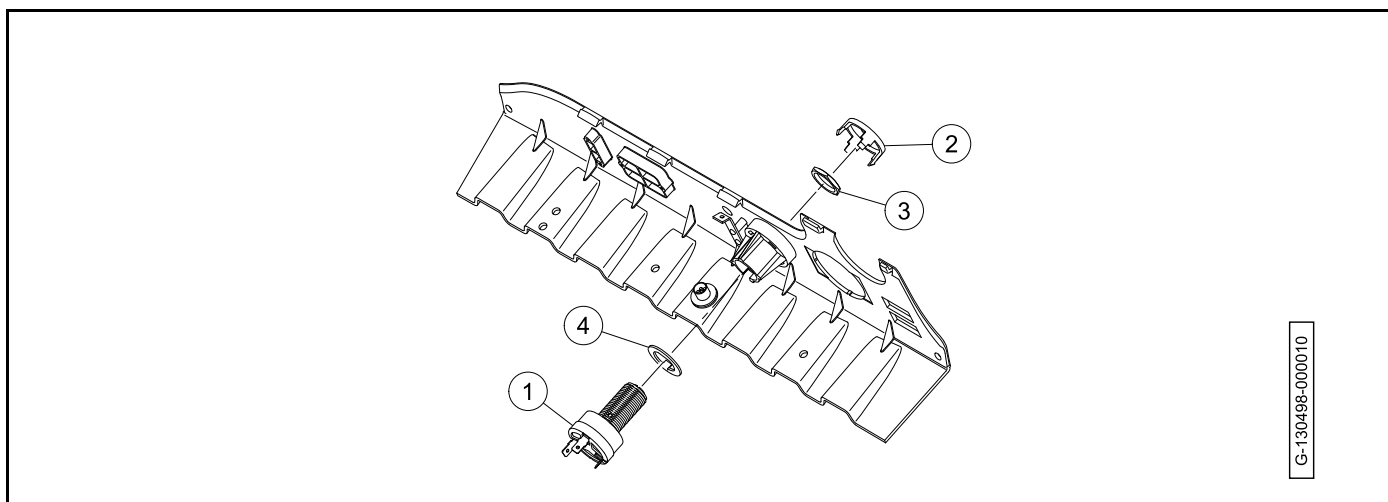

Figure 19-36 Key Switch
3. Disconnect the wires from the key switch (1) (Figure 19-36, Page 19-32).
4. From the back of the instrument panel, push down on the retaining tabs and remove the key switch cap (2).
5. Hold the key switch and remove the switch retaining nut (3) from the outside of the instrument panel.
6. Remove the washer (4) and the key switch
1. Install the key switch (1) and washer (4) into the instrument panel (Figure 19-36, Page 19-32).
2. Install the key switch nut (3). Tighten the nut to 35 to 45 lb·in (4 to 5 N·m).
3. Install the key switch cap (2).